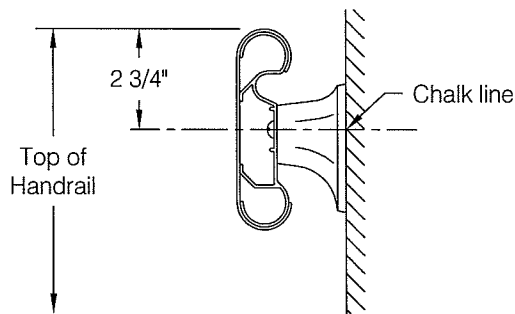

fig 1
**Step 1:** Determine top of handrail height and snap a chalk line 2 ¾" below for centerline of mounting hardware, see **fig 1**.